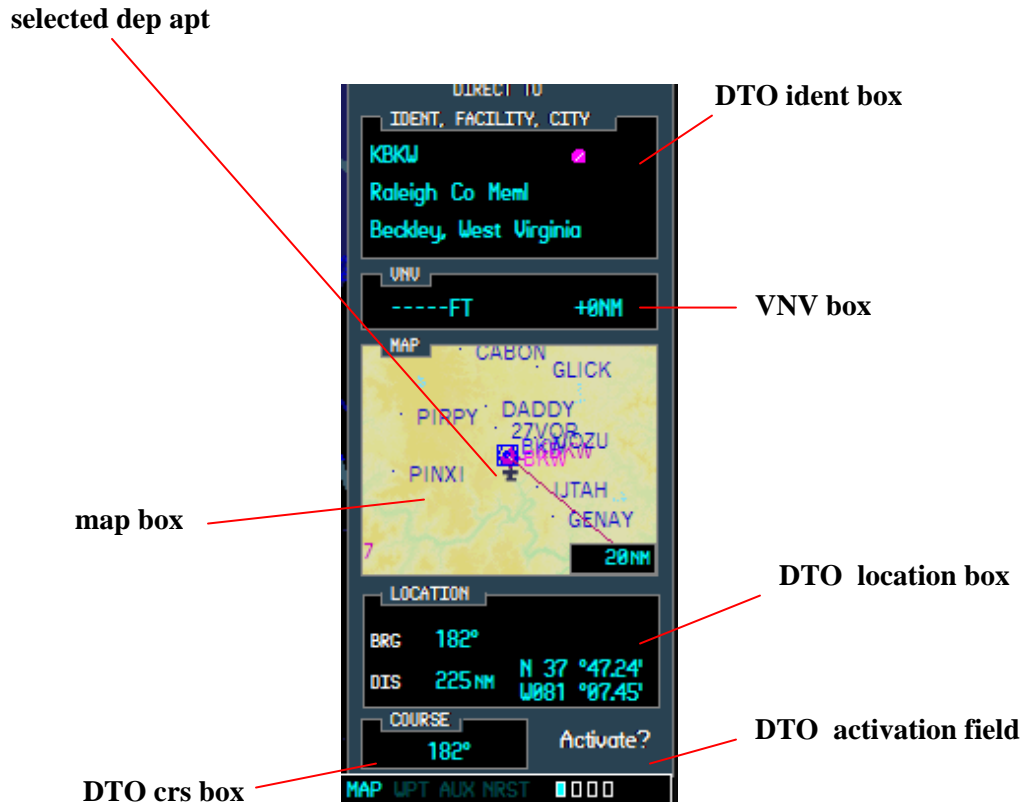

Figure 6.1
The DTO page window on the MFD displays 5 data boxes (Figure 6.1):
1. click on the DTO button to display the DTO page window (Figure 6.1).